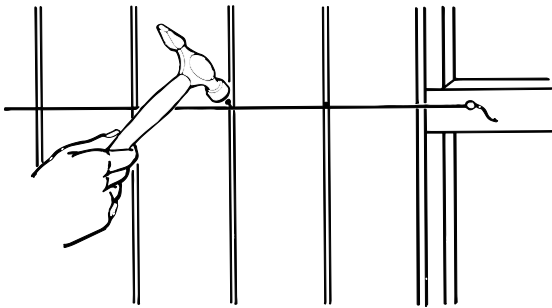

Fig 5 Fix to horizontal battens using string line.
- When the panel is secured to the vertical battens, fix it to the horizontal battens driving panel pins through the grooves. Use a string line stretched along the line of the horizontal batten to ensure the pins are driven in at the same level (see Fig 5).